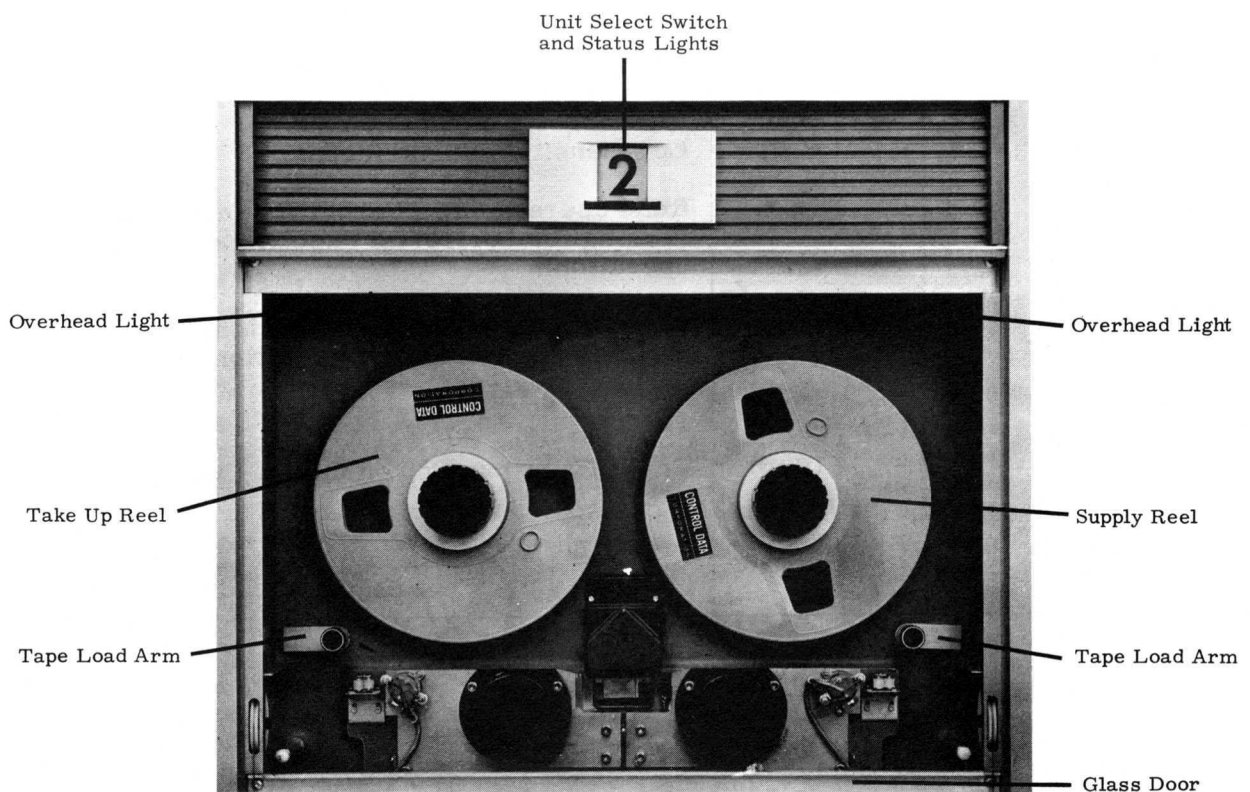

Figure 4-8. 606 Tape Load and Unload Mechanics
- 2) Slide front glass door down to lowest position (figure 4-8).